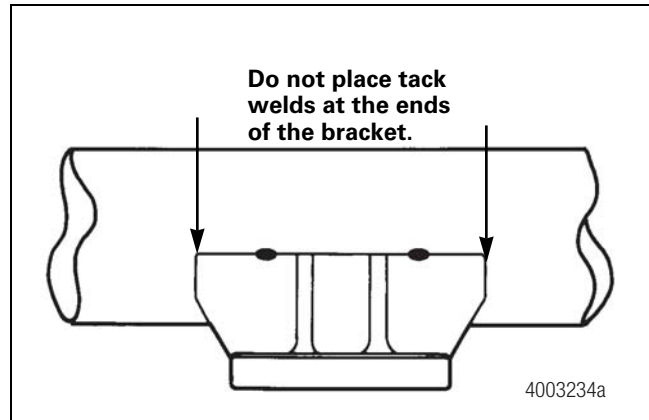

Figure 7.7
- Do not locate tack welds at the ends of the bracket. Rather, they should be located toward the center of the brackets. Figure 7.7.